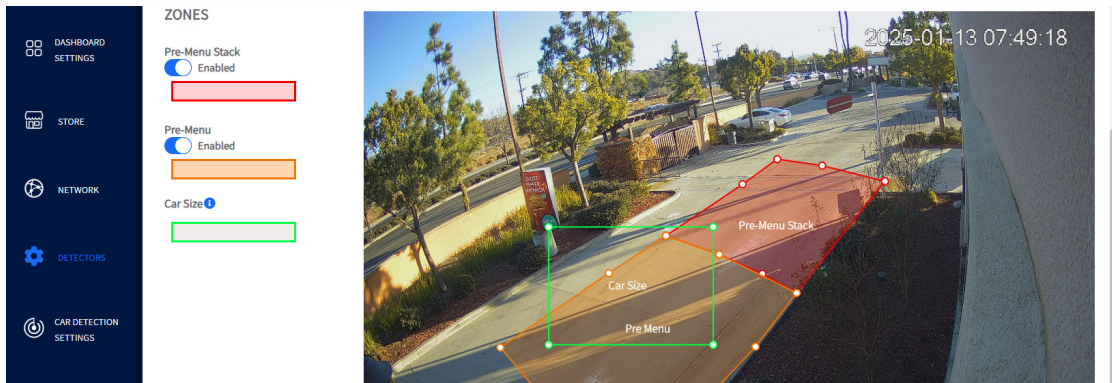

Fig. 30
14. The Car Size polygon (in green) is used as a reference to approximate a vehicle's size. Any average-sized car (e.g., a sedan) close to the zones can be used. Drag the box to one of the captured zones. Place the box over the car and adjust it using the corner vertices to match the vehicle's size. If no cars are present, the installer can use their car if it is an average-sized vehicle. See Fig. 30.